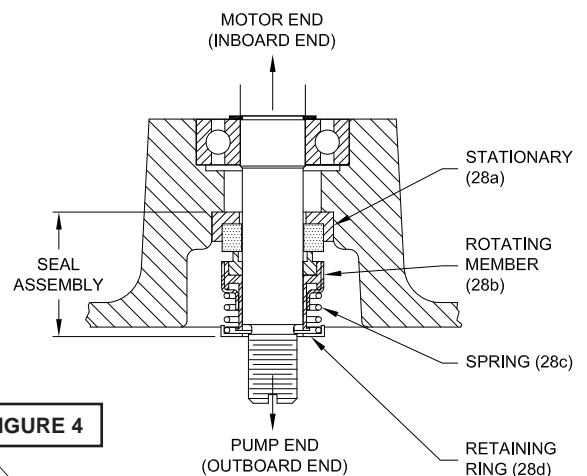

FIGURE 4
Outer Seal (All Units)- To expose shaft seal (28) for examination, disassemble volute and impeller as outlined in paragraph F-2.1. If further repair is required, remove retaining ring (28d), spring (28c) and rotating member (28b) from shaft (see Figures 4 & 5). Examine all seal parts and especially contact faces. Inspect seal for signs of wear such as uneven wear pattern on stationary members, chips and scratches on either seal face. **DO NOT** interchange seal components, replace the entire shaft seal (28). If replacing seal, remove stationary (28a) by prying out with flat screwdriver. Make sure the stationary member is in straight. Slide a bullet